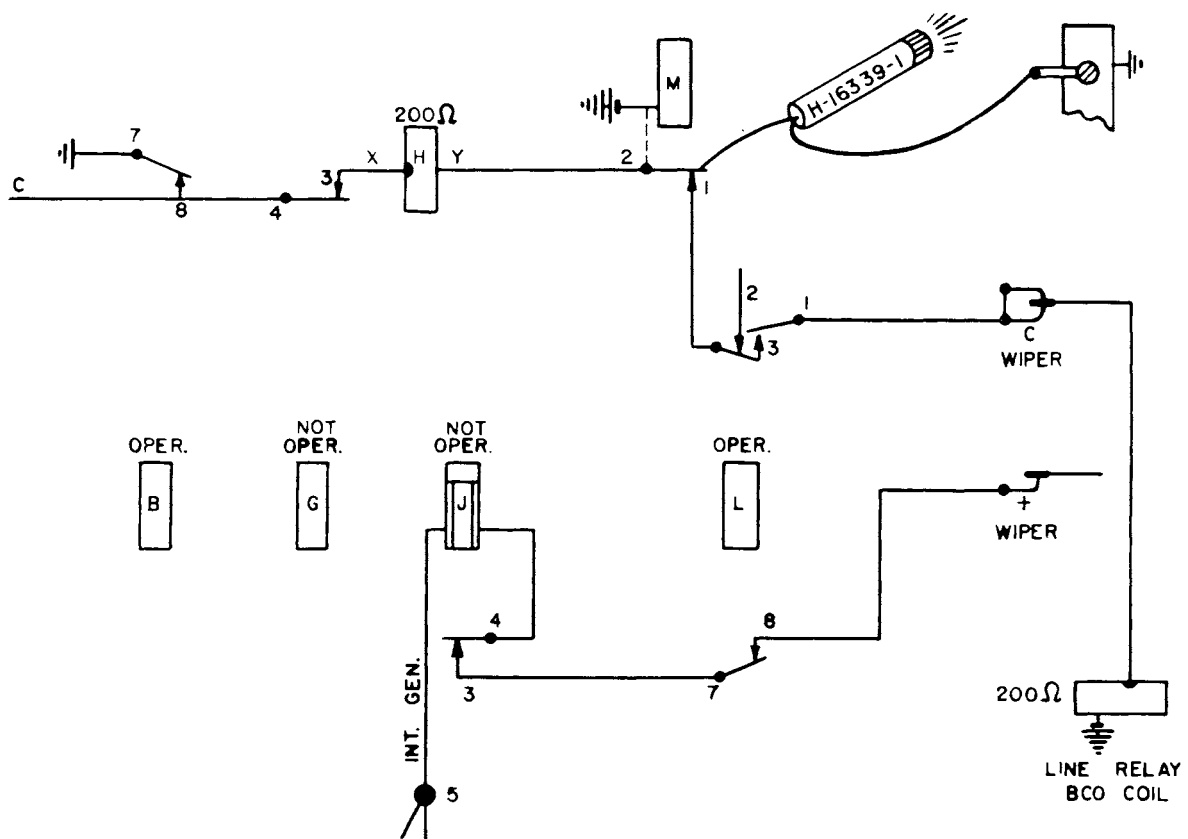

Figure 9. Locating a short in a d-c circuit.
- b. For an example of locating a short or foreign potential in a d-c circuit see figure 9. Clip the test lamp on a (+) battery terminal. With the pick at relay M spring 2, a lighted lamp indicates the foreign potential holding relay H operated. Separate relay M spring 1-2. A dark lamp at spring 1 indicates trouble between spring 2 and point Y. After isolating this trouble, a visual inspection will suffice.